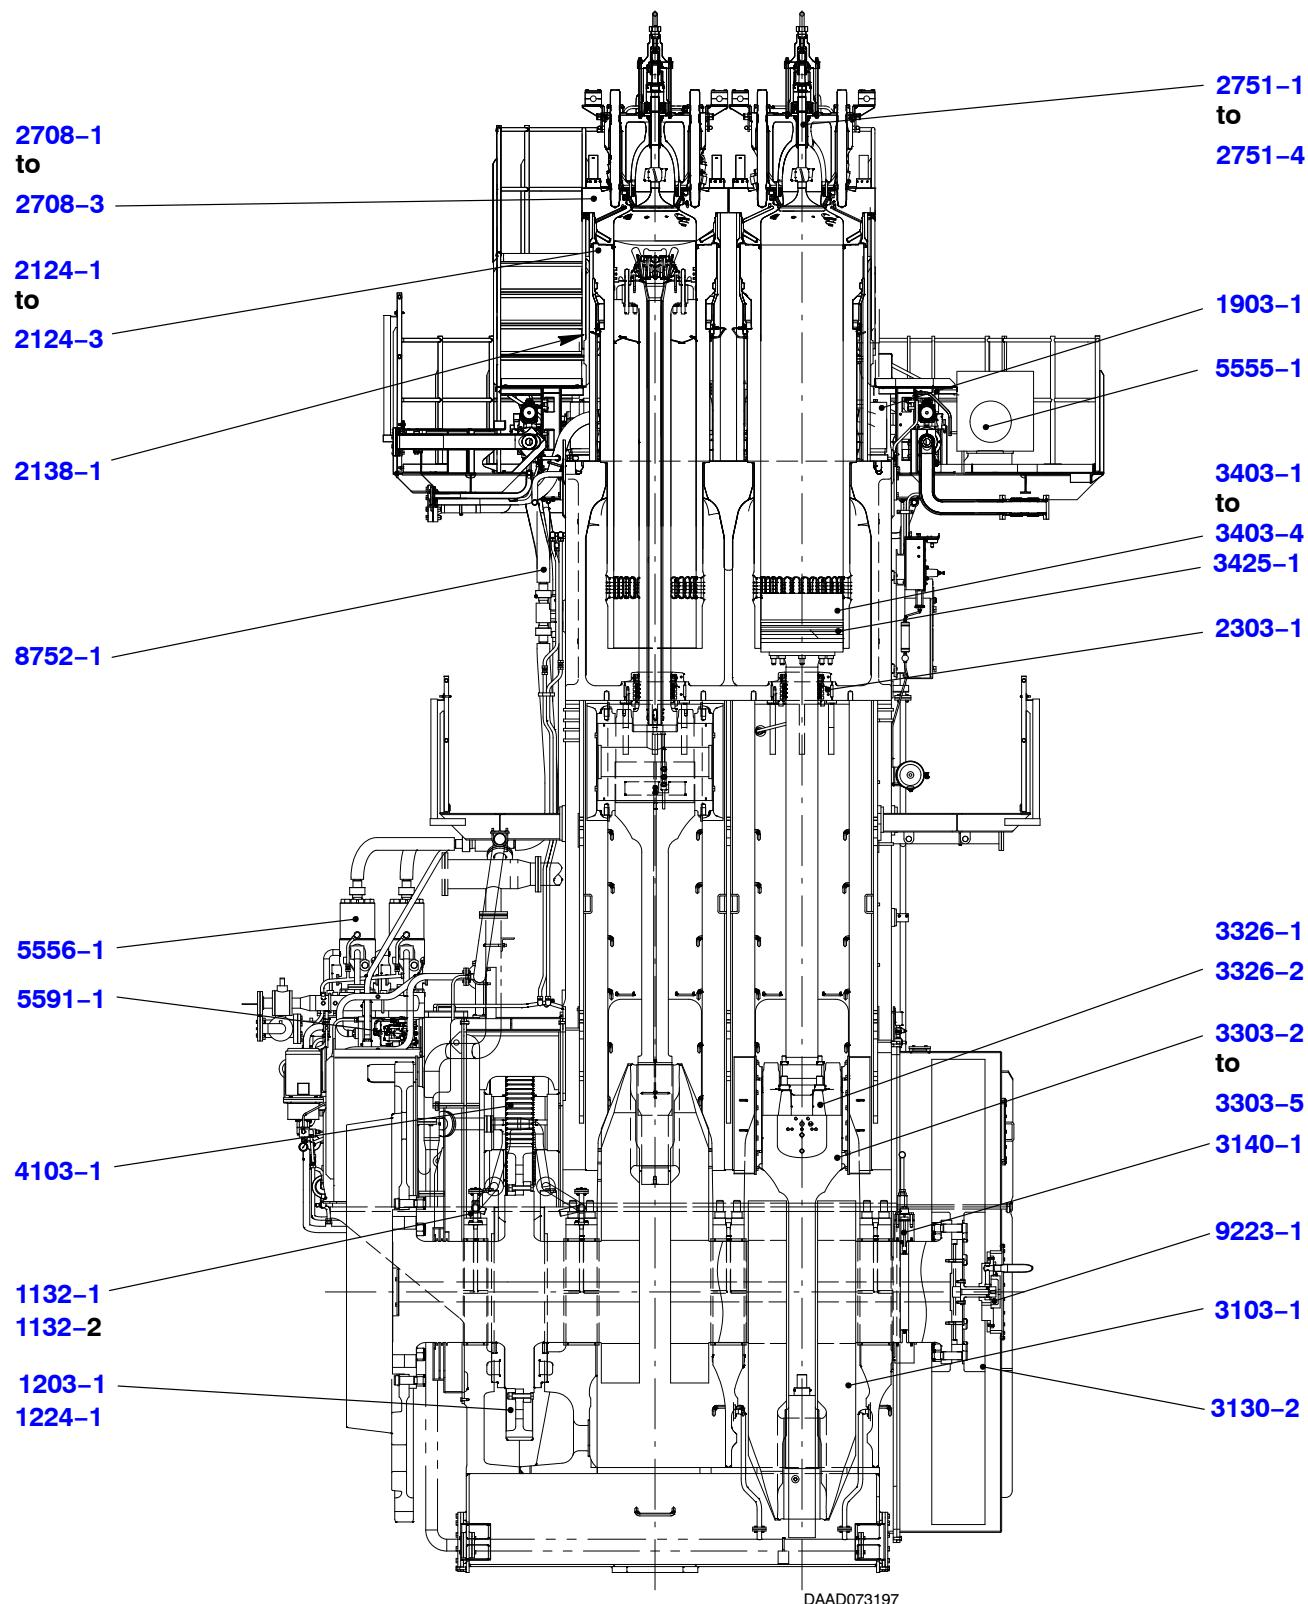

Fig. 2: Longitudinal Section
The remaining area is attached with the foundation bolts (1, Fig.2) and the short bush (2).